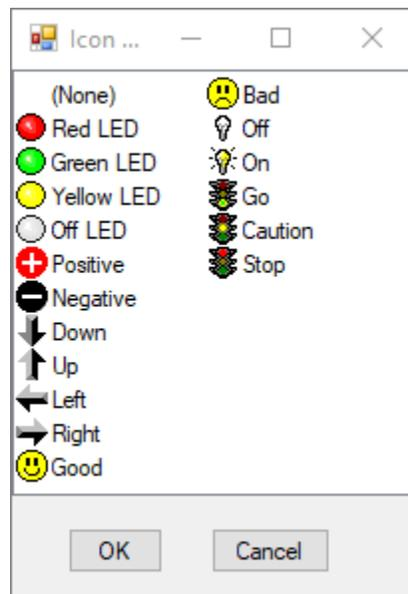

Figure 115 – Icon List
4. Select icons for each stat by selecting the icon field, clicking the browse button, and then selecting an icon from the icon list. (See Figure 115 – Icon List).